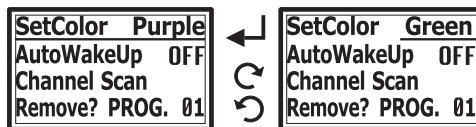

Fig. 20
- (L) SetColor function, Fig. 20: